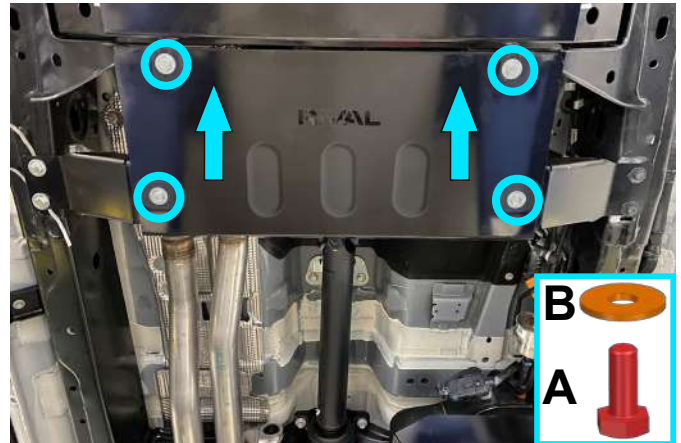

Fig. 6
5. Put transfer case skid plate (item 1) on installed bolts M10x25 and washers 10 from step 4. Fix the rear part of skid plate to mount bracket, using bolts M10x25 (item A) and washers 10 (item B), as shown in fig.6.